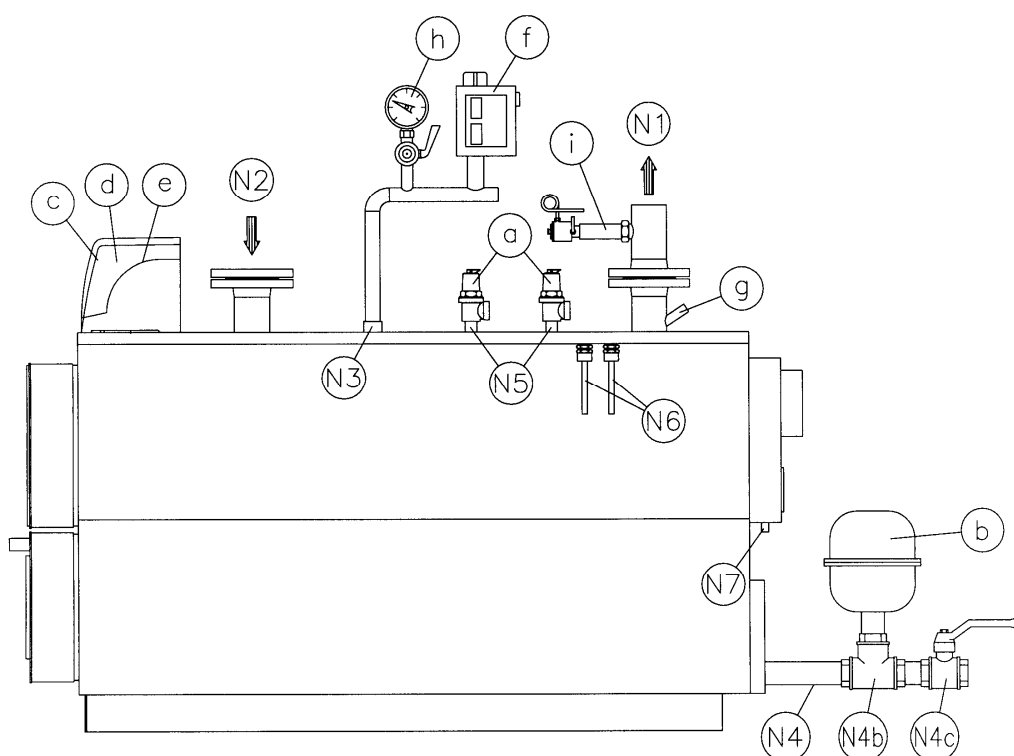

Fig. 1
3.2.1 IMPIANTO TERMICO AD ACQUA CALDA CON VASO D'ESPANSIONE CHIUSO (Fig. 1)